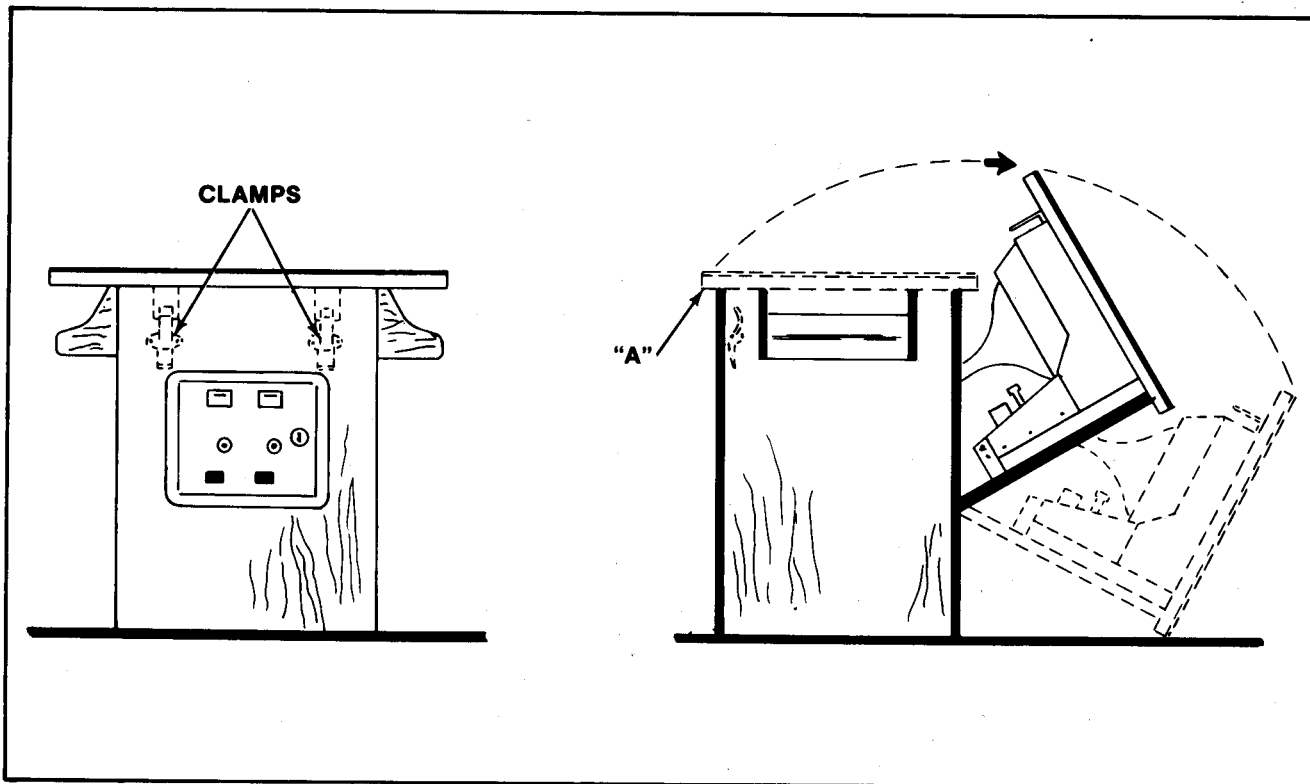

Figure 4-10 Opening the Cocktail Game
- Open the coin box door and release the two latches indicated in Figure 4-10.
- Grasp the table top at "A" and open it as indicated in Figure 4-10.
Open the coin box door and release the two latches indicated in Figure 4-10.